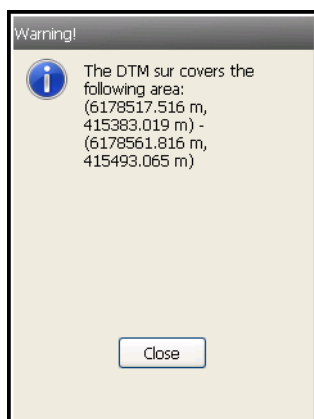

Figure 13-41. DTM Area
- **Stake** – opens a warning about the DTM area (see Figure 13-41 on page 13-38).